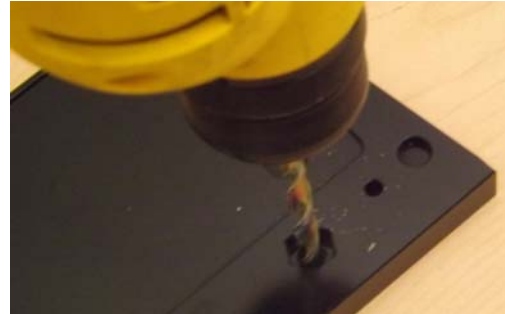

FIG. 2 MARKING THE LOCATION OF THE HEX HEAD BOLT HOLES
2. Mark the location of the hex head bolt holes going through the security mount base, such as by drilling through the holes into the table (FIG. 2).